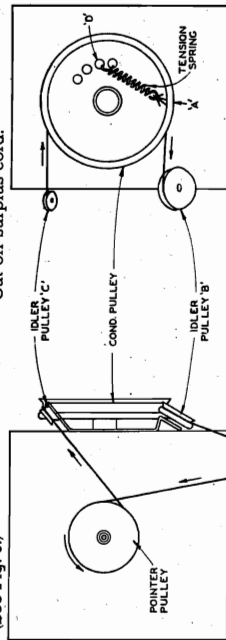

FIG. 3
4. Continue other end of cord over idler pulley "B" and down to tuning shaft. Make two turns counter-clockwise around tuning shaft. (See Fig. 3.)